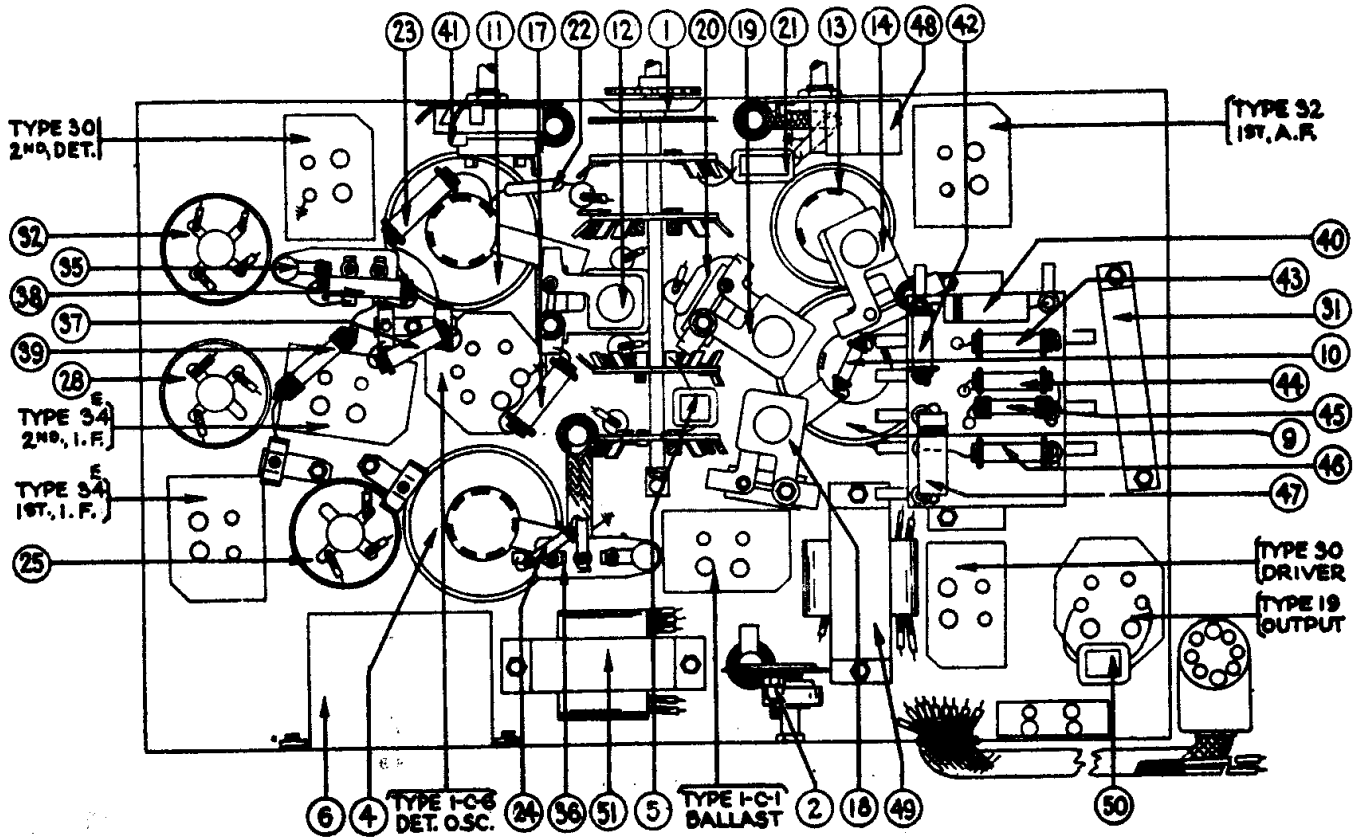

FIG. 5—Bottom View of Chassis, Showing Parts, and Position of Compensating Condensers Reached from Below Chassis
Turn the Wave-Band Switch to Range 2, and adjust the Station Selector to 3.6 M.C. The "Antenna" connection between the Signal Generator and the receiver chassis must be removed for this adjustment, otherwise the output of the Signal Generator will be too great. Adjust the compensating condenser ⑮ to give maximum response in the output circuit. This compensating condenser is located underneath the chassis and is not accessible from above. See Figure 5.
The Model 048 or its equivalent is now used again. Turn the Wave-Band Switch of the set to Range 2 and the Station Selector to 1.5 M.C. Set the Signal Generator at 1500 K.C. Make sure the "Antenna" connection between the Signal Generator and the Chassis has been restored. Adjust compensating condenser ⑯ located underneath the chassis, (Figure 5). Adjustment is made from the underside of the chassis.
Tune the Wave-Band Switch to Range 1 and the Station Selector to 1400 K.C. Set the Signal Generator at 1400 K.C. Adjust compensating condenser ⑰, which is located underneath the chassis. (See Figure 5). This adjustment is made from the underside of chassis.
Finally, with Wave-Band Switch at Range 1, and Station Selector at 520 K.C., set the Signal Generator at 520 K.C. and adjust compensating condenser ⑱ (Figure 5). This compensating condenser is also mounted underneath the chassis, and reached from below.